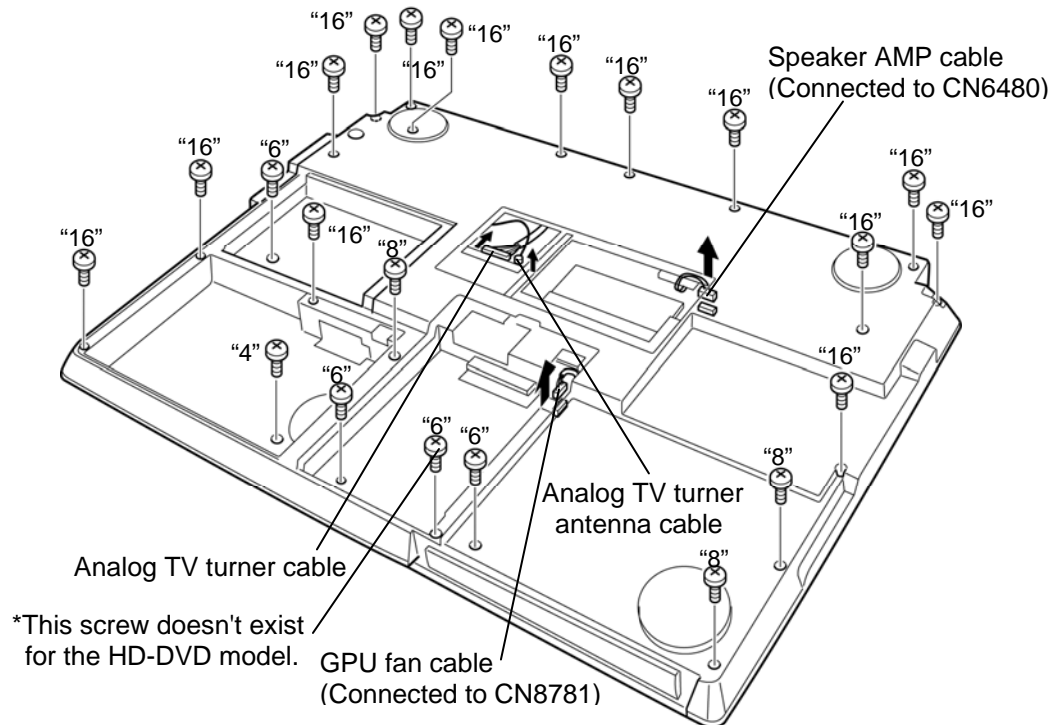

Figure 4-15 Removing the cover assembly (1)
The following describes the procedure for removing the cover assembly (See Figure 4-15 to 4-17).
The following describes the procedure for installing the cover assembly (See Figure 4-15 to 4-17).
- M2.0×4B      BIND screw              ×1 (Described as "4" in the figure 4-15)
- M2.5×6B      FLAT BIND screw      ×4 or ×3 (Described as "6" in the figure 4-15)
- M2.5×8B      FLAT BIND screw      ×3 (Described as "8" in the figure 4-15)
- M2.5×16B     FLAT BIND screw      ×14 (Described as "16" in the figure 4-15)